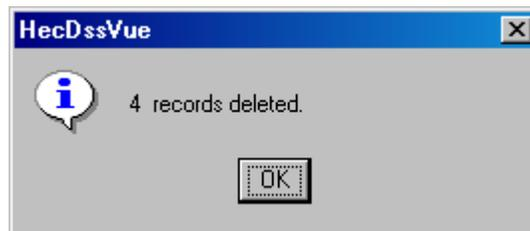

Figure E.24 Confirmation Message that Records have been Deleted
4. If the list correctly identifies the record(s) to be deleted, select **Yes**, and a confirmation message will appear (Figure E.24) telling you the record(s) has been deleted. Otherwise, select **No**, and the records will not be deleted.